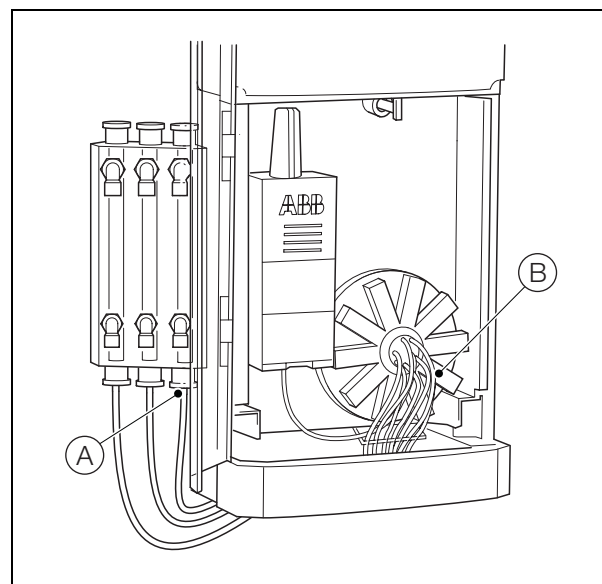

Fig. 12.4 Replacing Sample Tubes
1. Referring to Fig. 12.4:
- b. Disconnect the tube from the base of the side sample pot (A) and discard.
- d. Route the tube as noted in step a and connect the other end to the S1 valve connector (B) on the valve manifold.